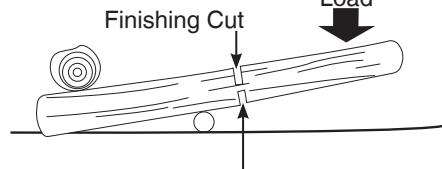

Fig. 25 Firs Cut - 1/3 Diameter
1. When the log is supported on one end (Fig. 25): First, cut from the bottom (underbuck) 1/3 of the way through the log to avoid splintering. Second, cut from above (overbuck) to meet the first cut and avoid pinching.